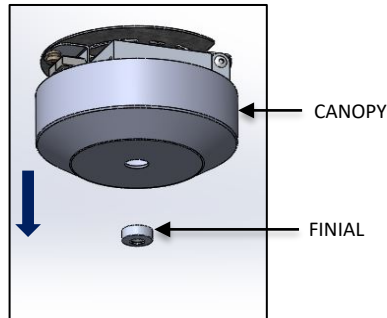

FIG. 5 – CANOPY DIS-ASSEMBLY
1. Loosen the CANOPY FINIAL and remove CANOPY as shown in FIG. 5. Be careful not to scratch finish.